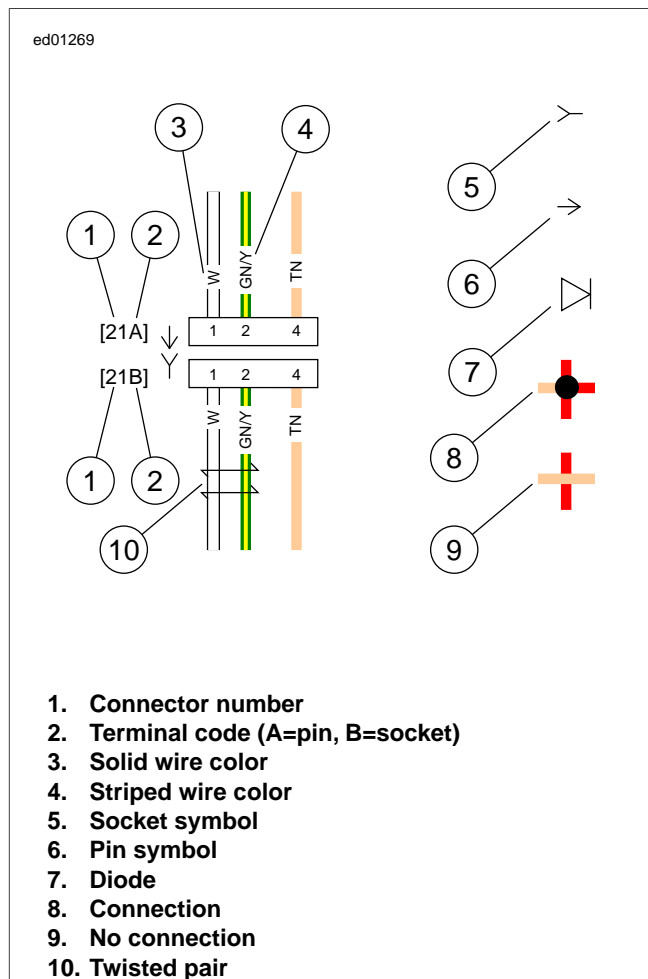

Figure A-3. Connector/Wiring Diagram Symbols (typical)
For Solid Color Wires: See Figure A-3. The alpha code identifies wire color (3).
See Figure A-3. On wiring diagrams and in service/repair instructions, connectors are identified by a number in brackets (1). The letter (2) inside the brackets identifies whether the housing is a socket or pin housing.